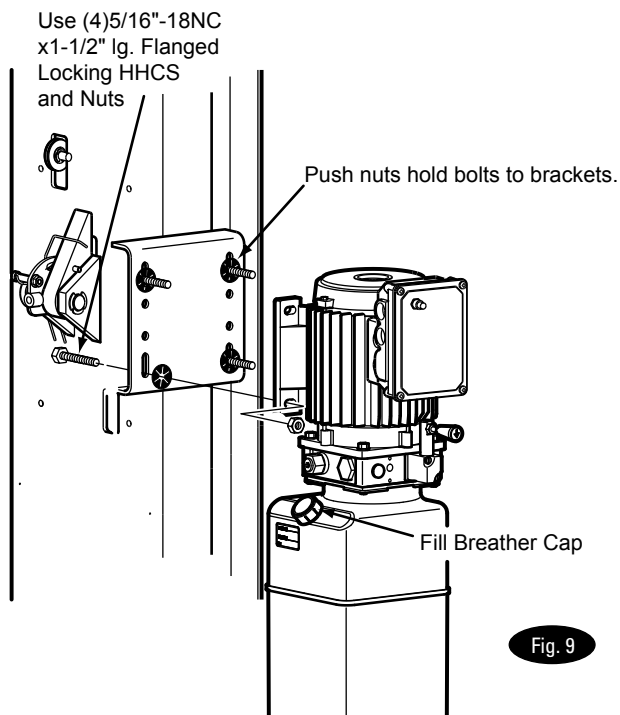

Fig. 9
9. Power Unit: Put the (4) 5/16"-18NC x 1-1/2" flanged Locking HHCS thru holes in power unit bracket using Push-Nuts to hold in place, Fig. 9. Mount unit with motor up to column bracket and install (2) 5/16" flanged locking nuts. Install and hand tighten Branch Tee to pump until O-ring is seated. Continue to tighten the locknut to 10-15 ft-lbs (14-20 Nm), or until the nut and washer bottom out against the pump manifold. NOTE: You may still be able to rotate the Branch Tee. This is acceptable unless there is seepage at the O-ring. If so, slightly tighten the locknut.